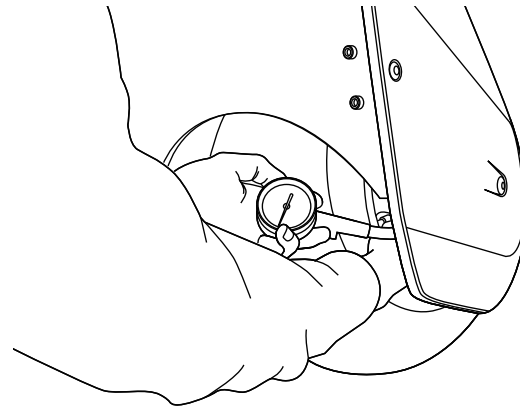

Figure 48: Check front tire pressure from behind the wheel shroud
4. From behind the front wheel shroud, locate the valve stem and check the tire pressure (**Figure 48**).